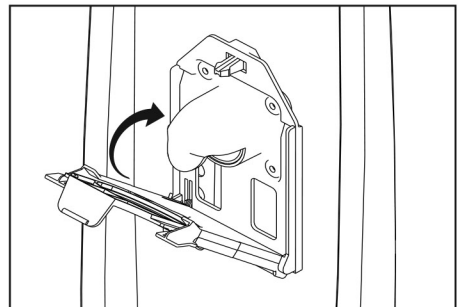

Fig. 4
4. Push the top of the bag collar upward until the collar “snaps” into place on the vacuum (Fig. 4).